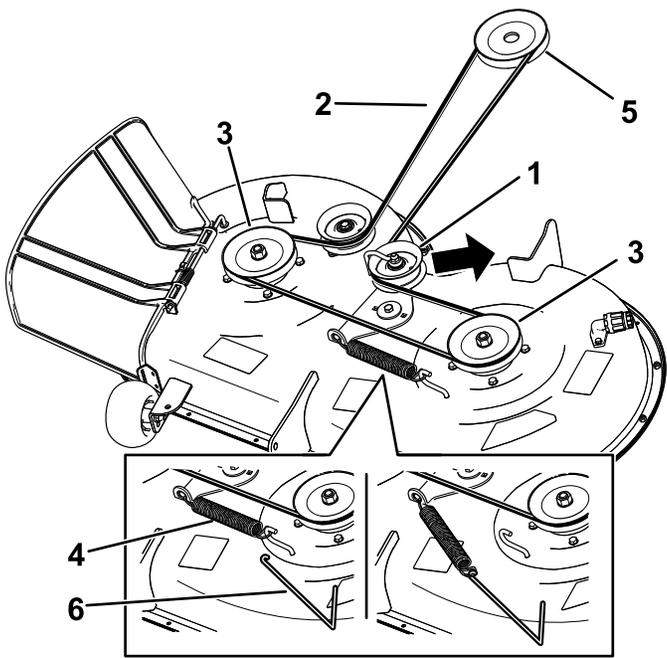

Figure 59
7. Using a spring-removal tool (Toro Part No. 92-5771), remove the idler spring from the deck hook to remove tension on the idler pulley, and roll the belt off the pulleys (Figure 59).
8. Route the new belt around the engine pulley and mower pulleys (Figure 59).
9. Using a spring-removal tool (Toro Part No. 92-5771), install the idler spring over the deck hook and place tension on the idler pulley and the mower belt (Figure 59).